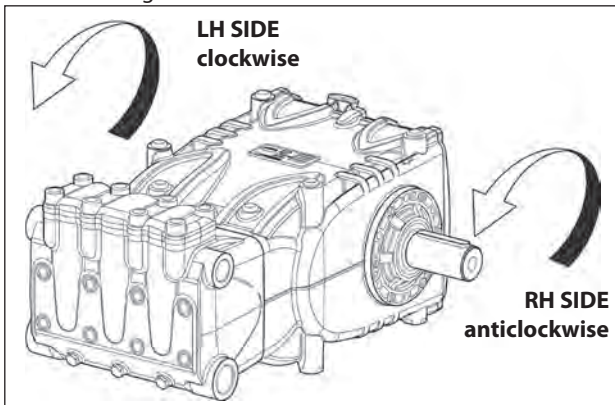

Fig. 5
From a position facing the pump head, the rotation direction will be as in Fig. 5.
**Note.** The version shown in Fig. 5 is right.